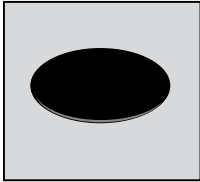

Figure 14.1
3. Empty the safe and remove the plastic caps covering the predrilled holes on the bottom of the safe (Figure 14.1).